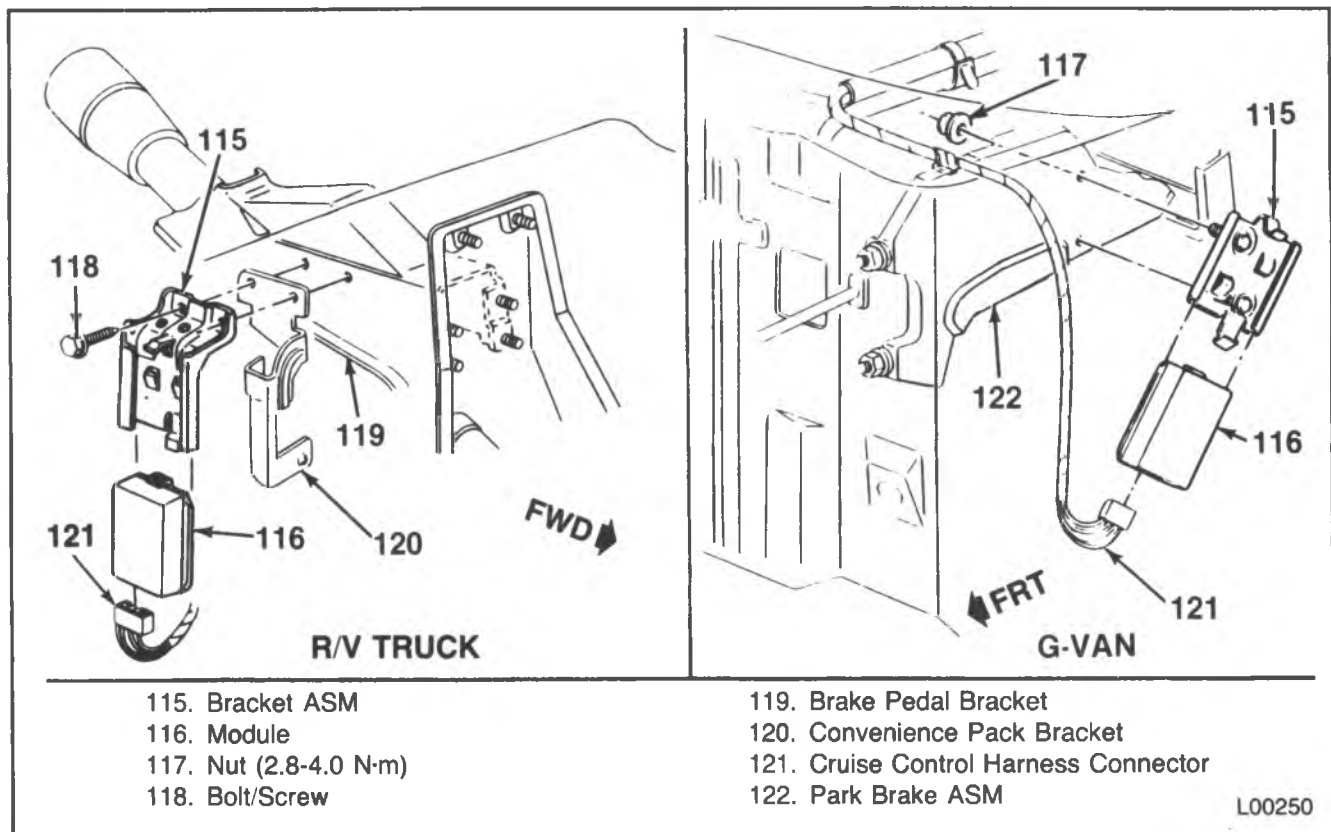

Figure 11 — Cruise Control Module Mounting
- Remove or Disconnect (Figure 11)**
1. Harness connector (121).
2. Module assembly (116) by prying back the retaining clip on the bracket and sliding the module out.
- Install or Connect (Figure 11)**
1. Module assembly (116).
2. Harness connector (121).